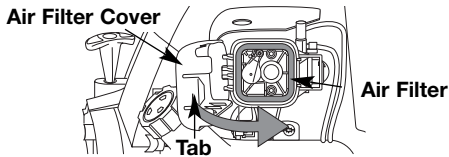

Fig. 30
7. Reinstall the air filter cover. Position the hooks on the left side of the air filter cover into the slots at the left side of the back plate (Fig. 30).
- Swing the cover to the right until the tab on the air filter cover snaps into place in the slot on the back plate (Fig. 30).